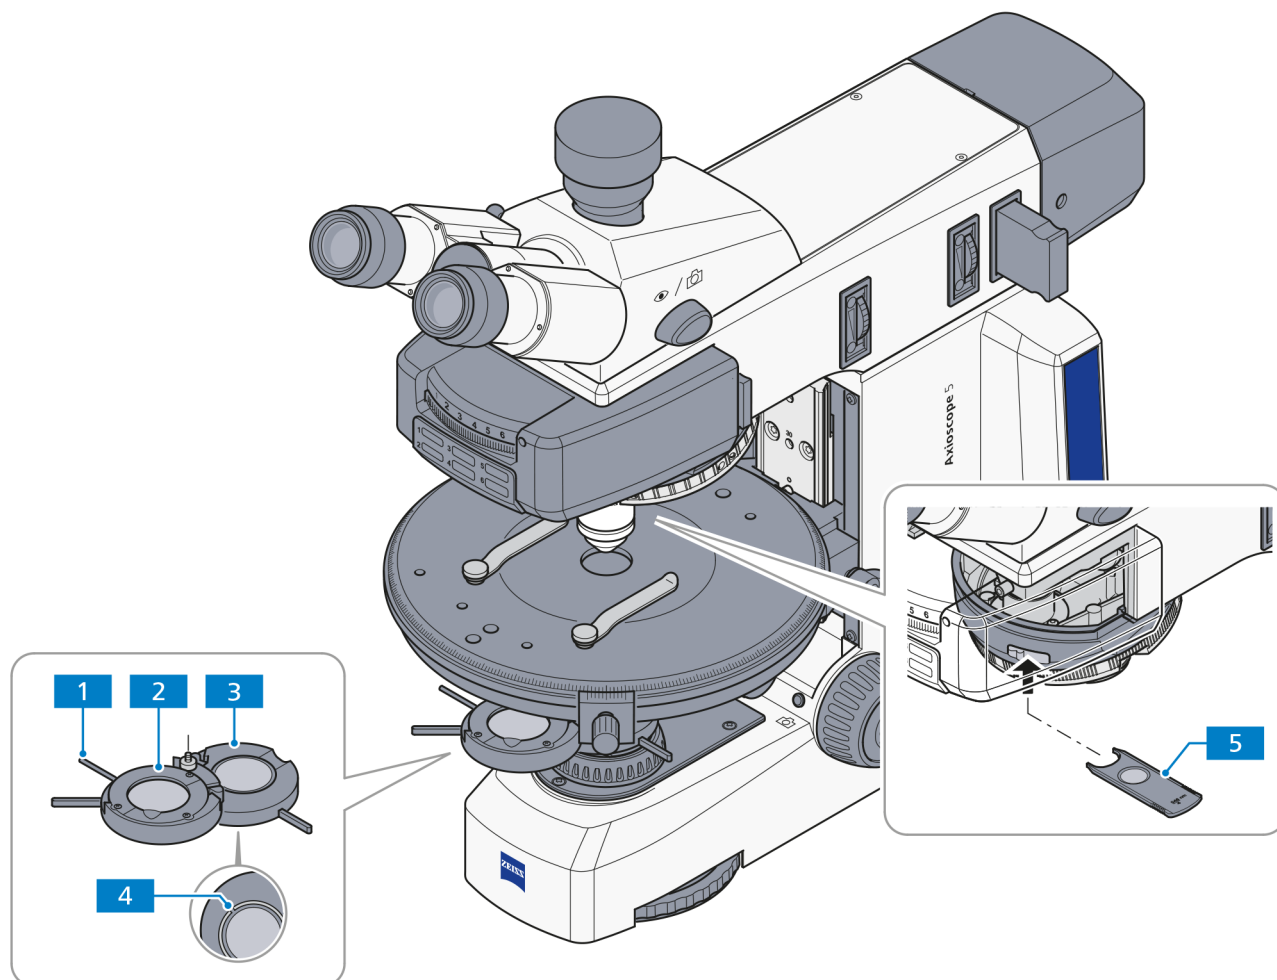

Fig. 4-12 Components for circular polarization contrast
(2) Microscope configuration
(3) Setting the microscope
- Swivel the lower part of the D circular polarizer (Fig. 4-12/3) into the light path up to the click stop and swing in the analyzer module on the reflector turret or insert the analyzer slider into the intermediate plate (if applicable). At full light intensity, assess the extinction (darkening) of the field of view without specimen.
If the extinction is not optimal, correct the vibration direction of the polarizer by slightly and carefully turning the polarizer mount using a small screwdriver (for that, use the adjusting slots (Fig. 4-12/4) on the bottom of the polarizer) until you obtain maximum extinction. Normally, however, this is not necessary because the vibration direction of the polarizer is factory-adjusted.
- Push the 6x20 mm slider with the $\lambda/4$ plate (Fig. 4-12/5) belonging to the polarizer into the compensator slot above the nosepiece as far as it will go.
- Then, swivel the top part of the D circular polarizer (Fig. 4-12/2) into the light path.
- Rotate the lever of the $\lambda/4$ plate of the D circular polarizer (Fig. 4-12/1) until obtaining maximum extinction (dark-gray field of view) (lever points 45° to the right).
The effect of the $\lambda/4$ plate (Fig. 4-12/2) can be undone by either swiveling it out of the light path or turning it with lever (Fig. 4-12/1) into one of its two click-stop positions.